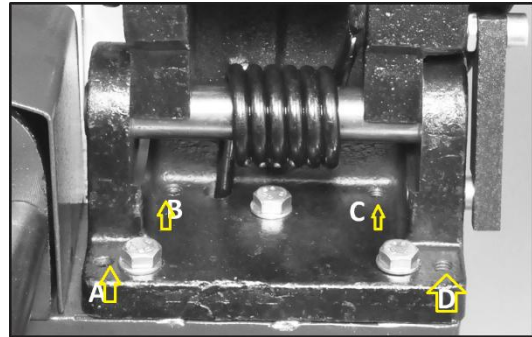

Figure 15.
- The pair of 2 set screws to the far left will raise the left end of the table. FIG. 15, A & B.